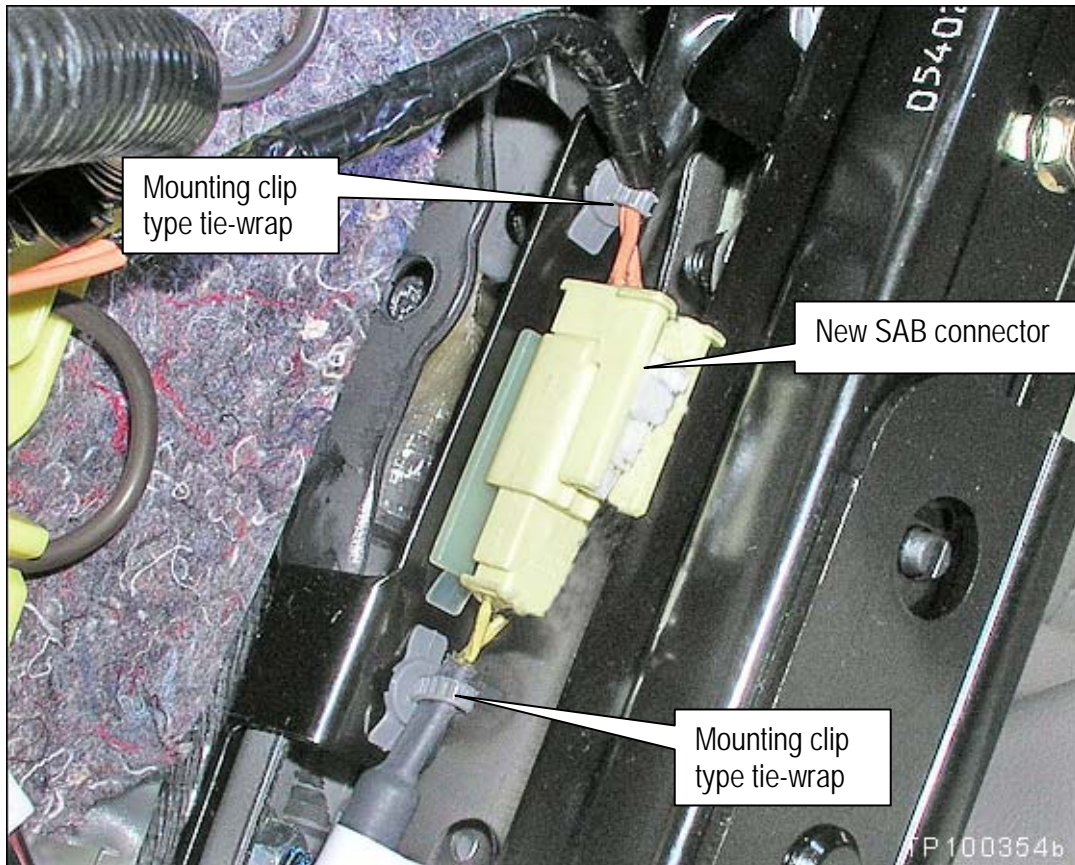

Figure 5a
7. Mount the new SAB connector on the bracket as shown in Figure 5a.